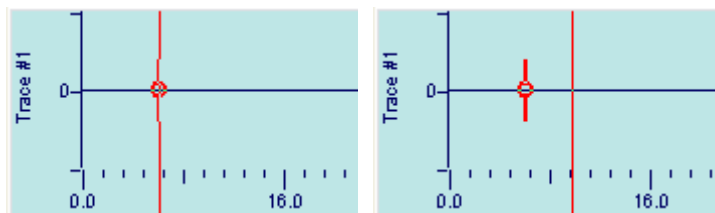

Figure 24 First break marker (timeline moved on the second figure)
- Positioning a first break marker (Figure 24)